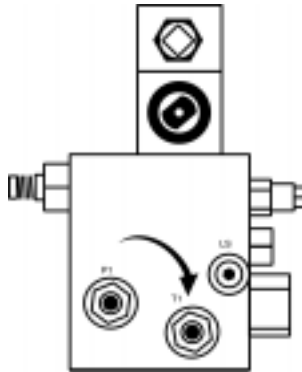

Figure 3.3
- Attach the hose which is connected to the “T1” port on the GRADEMASTER valve to the “Return” connector on your tractor. See Figure 3.3.